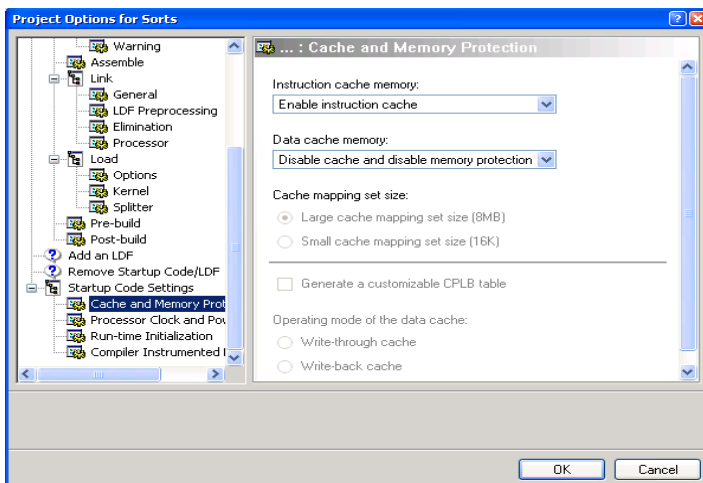

Figure 1-8. Cache Dialog Box
1. In the **Project**→**Project Options** dialog box, navigate to the **Startup Code Settings**→**Cache and Memory Protection** dialog box (Figure 1-8).